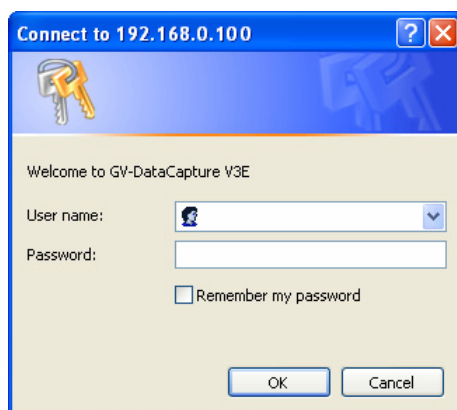

Figure 9
1. Open an Internet browser, and type the web address: <http://192.168.0.100>. The login dialog box (see *Figure 9*) appears.